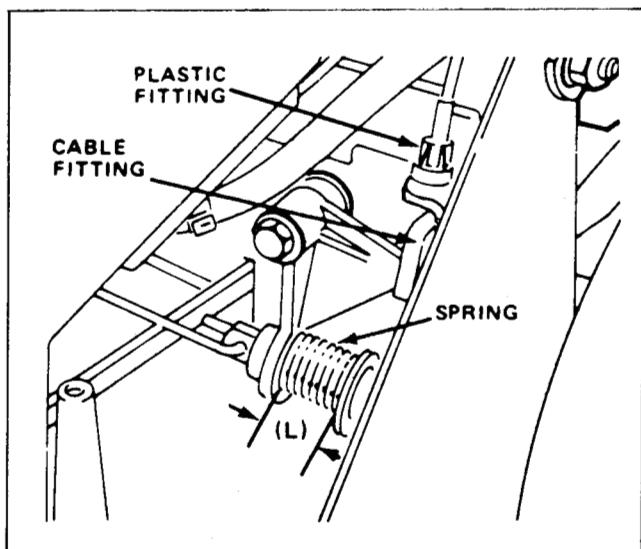

Figure 26
3. Move the control bar down and lift up against the handle. With the control bar against the handle, measure the spring length (L) at the front of the spring as shown in Figure 26.